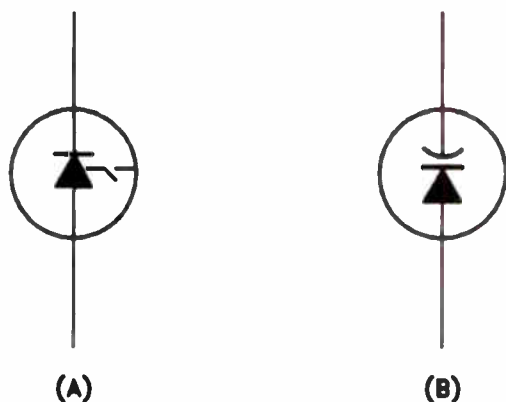

Figure 16. (A) The schematic symbol for a pin diode; (B) the schematic symbol for a varactor diode.
The symbol used to represent a pin diode is shown in Fig.16(A) and the symbol used to represent a varactor diode is shown in Fig.16(B).